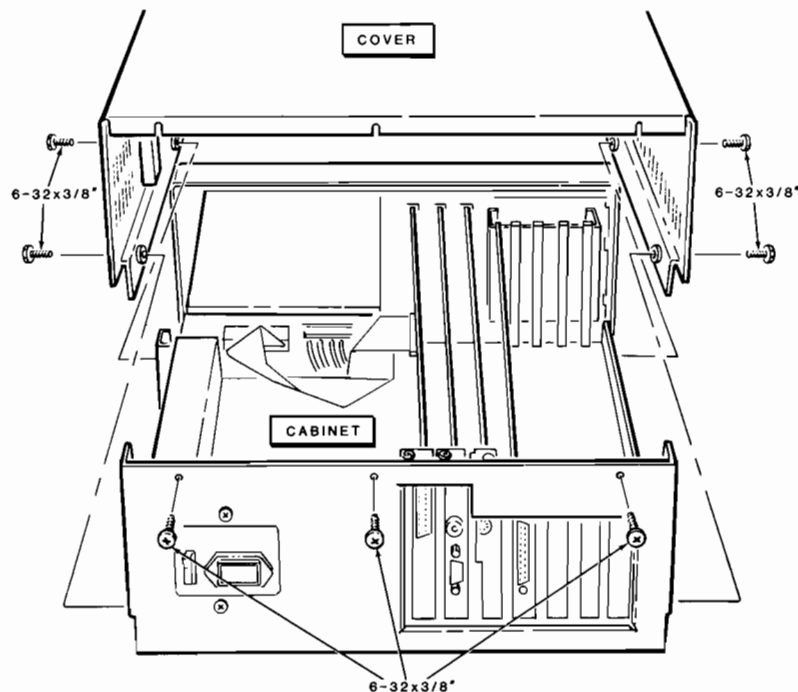

Figure 2.1. Z-150 Disassembly
- Refer to Figure 2.1. Remove and save the seven screws (labeled 6-32 $\times$ 3/8") that secure the top cover to the computer.